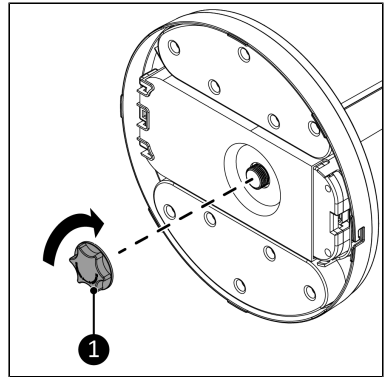

Figure 23.
4. Place the base safety screw (Figure 23, pos. 1) and turn it clockwise to secure the base.